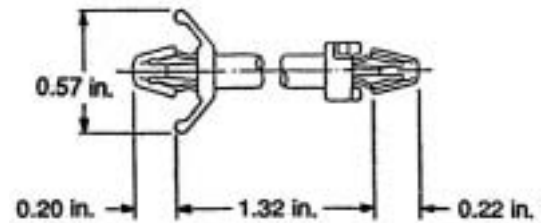

Figure 3. Mounting Spacer
- a. Remove contents from package. Verify that a mounting spacer is included with the card. See Figure 3.